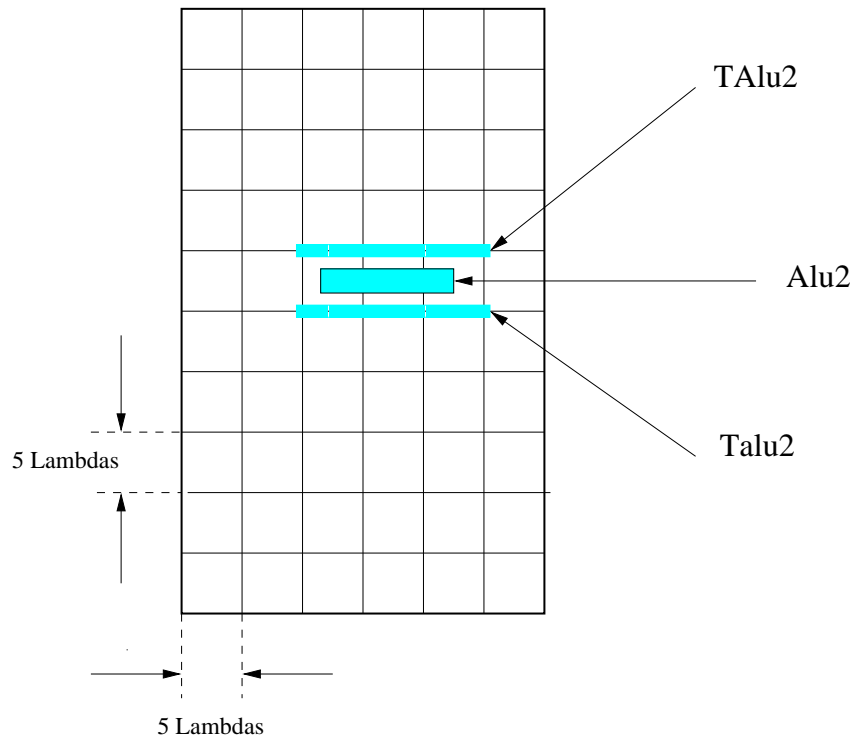

Figure 5: Use the layer TAluX like protection
- The special segments TAlux (TAlu1, TAlu2...) are used to indicate the obstacles for the router. When you want to protect AluX segment, it is necessary to cover them or surround them by corresponding TAlux (same layer). TAluX are placed on a grid with 5 lambdas steps (figure 5).